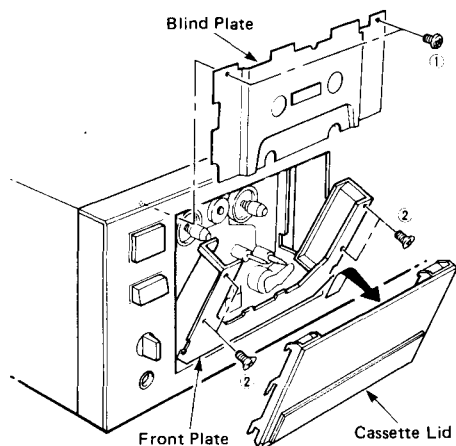

Fig. 1
- Remove 2 screws ① in Fig. 1 and remove the blind plate.
- Remove 4 screws ② in Fig. 1 and remove the front plate.